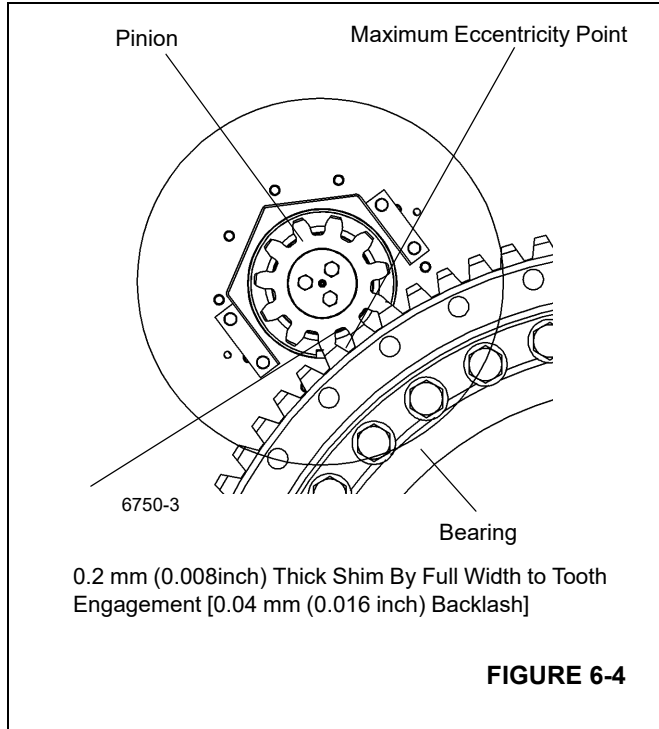

FIGURE 6-4
NOTE: If a new bearing is being installed, a new pinion gear must also be used. Align the high point (maximum eccentricity) on the bearing with the new pinion gear high point (Figure 6-4). Also, for a new bearing, the fill plug location must be oriented to the side of the turntable.
Orient ring gear to the point of max eccentricity (“high point”). Position swing drive so that pinion is centered within cutout in base plate and the motor ports face towards the outboard side as shown in (Figure 6-4).
- Using shims, set backlash by moving the swing drive assembly toward the bearing in order to mesh the pinion with the ring gear teeth (see Figure 6-4).